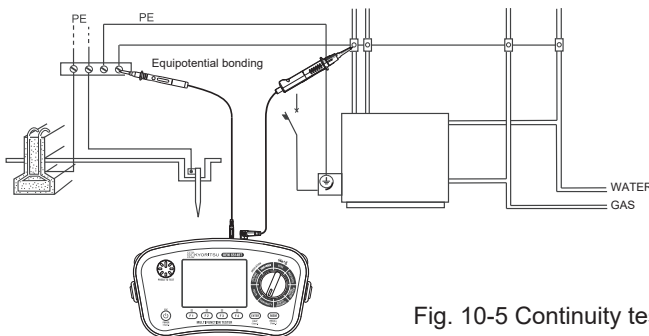

Fig. 10-5 Continuity test example
- (4) Unlock the test switch and confirm the LCD shows 0.00 Ω .
- (5) Confirm that the circuit isn't live and then connect the test leads. (See Fig. 10-5.)